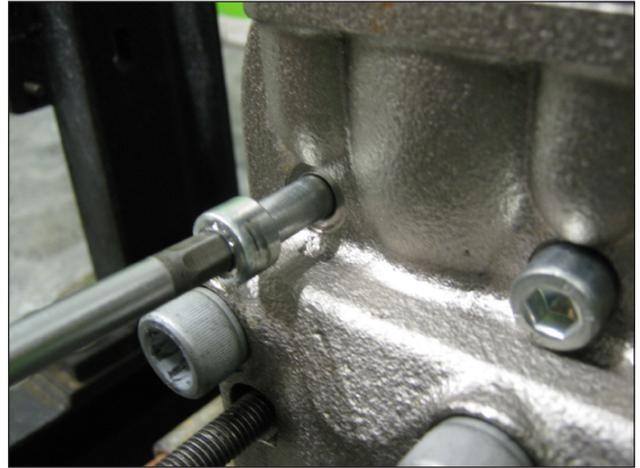

Fig. 25
A) Unscrew the M10x110 head fixing screws as indicated in (Fig. 25).